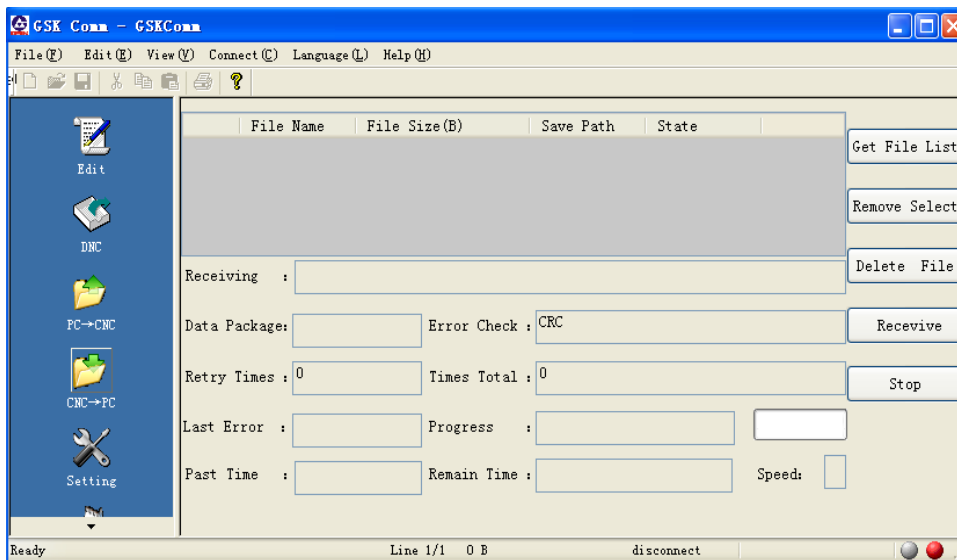

Fig. 11-2-2-1
3. Click button to obtain the CNC file list, which is shown in Fig. 11-2-2-2: